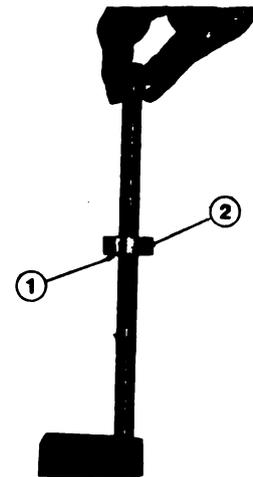

Fig. 1-25 (V10188). Adjust The Collar On The Depth Gauge Rod.
4. Adjust the collar on the depth gauge rod to the proper depth. Align the bottom of the collar with the line on the gauge rod, (1) Fig. 1-25. Tighten the setscrew (2) in the collar.